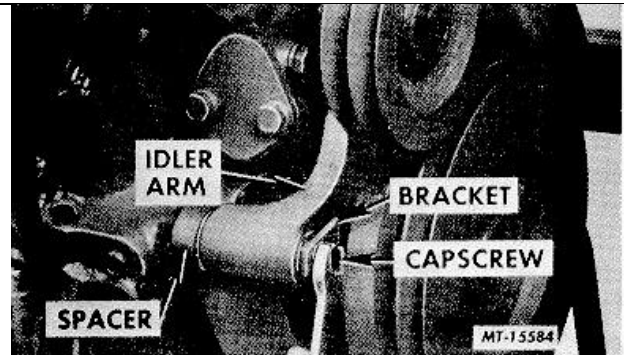

Fig. 55 Removing Idler Arm Assembly
48. Disconnect idler arm spring from hook in front cover and remove spring from idler arm. Loosen idler arm capscrew and remove idler arm and spacer from bracket (Figure 55).